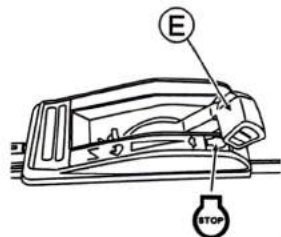

Fig. 20
5. To interrupt mowing work halfway or finish it, return Drive clutch lever (B) and Blade lever (C), and then set Throttle lever (E) to "STOP" to stop the engine. (See Fig. 20)